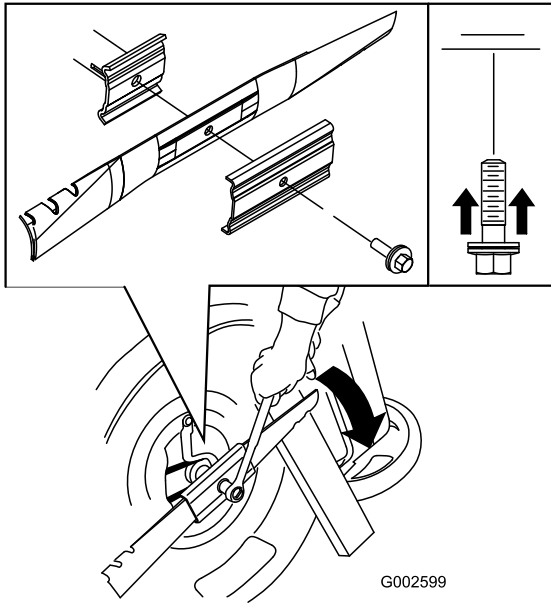

Figure 48
3. Use a block of wood to hold the blade steady (Figure 48).
4. Remove the blade, saving all mounting hardware (Figure 48).
5. Install the new blade and all mounting hardware (Figure 48).